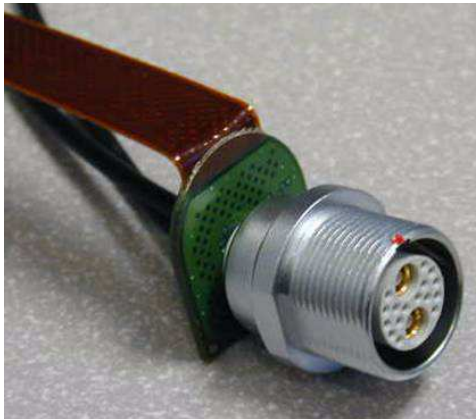

Figure 6-19 Creating a sharp bend
- Create A sharp bend (Figure 6-19): The flex circuit must be bent at a right-angle where it meets the printed circuit board. It can only be bent after heat has been applied to it (i. e. using a hot-air gun, or a similar device)